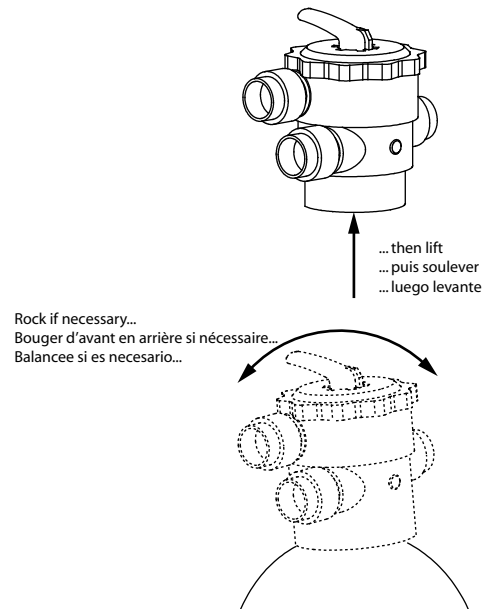

Figure 11
- Lift the filter valve from the body (Figure 11). It may be necessary to loosen the valve by moving it back and forth.